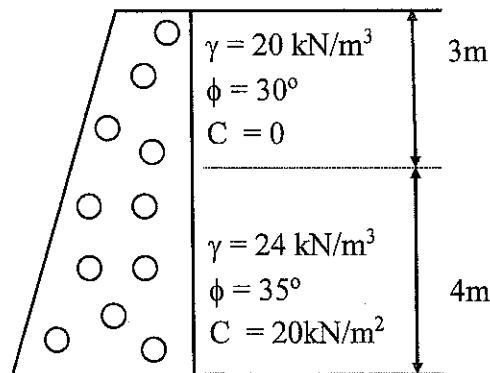

Figure A2(b) / Rajah A2(b)
- (a) Illustrate the stress distribution diagram of normal stress, effective stress and pore water pressure with depth for the soil profile shown in **Figure A2(a)**.
- (b) A retaining wall was built during the excavation as shown in **Figure A2(b)** to bear two soil layers behind it. Analyse the magnitude and location of soil active thrust acting on the rear wall using Rankine theory by excluding passive pressure in front of the retaining wall.